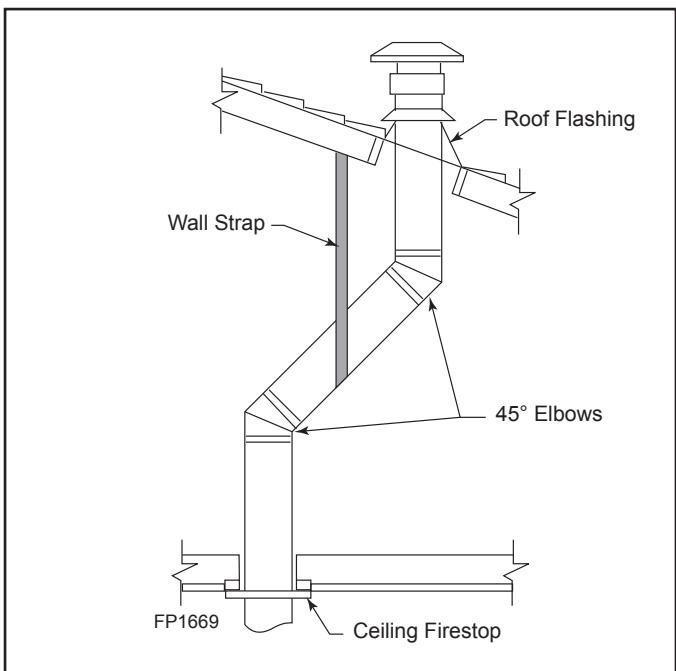
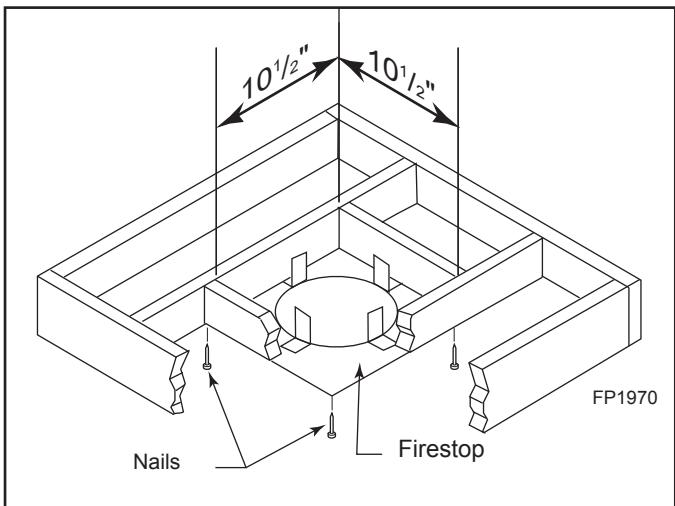

Figure 5.14 Offset with Wall Strap and 45° Elbows
Figure 5.16 If Area Above is Not a Room, Install Firestop above Framed Hole as Shown
1. Cut a 10½" (241 mm) square hole in the ceiling using the locating hole as a center point. The opening should be framed to 10½" x 10½" (267 x 267 mm) inside dimensions as shown in Figure 5.16 using framing lumber the same size as the ceiling joist. If the area above the ceiling is an insulated ceiling or a room, nail firestop from the top side. This prevents loose insulation from falling into the required clearance space. See Figure 5.14. Otherwise, install firestop below the framed hole. See Figure 5.16